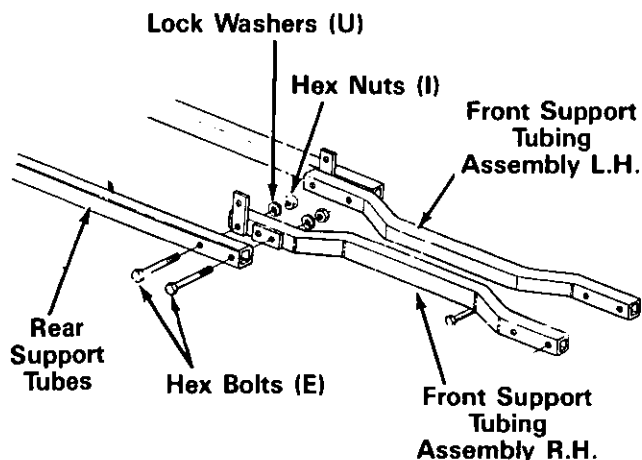

FIGURE 3
- A. Place the front support tubing assembly on work bench or the floor. Place the rear support tubes in position as shown in figure 3.
- B. Place hex bolts (E) through holes in side of rear support tubes and front support tubing assembly. See figure 3.
- C. Secure hex bolts (E) with lock washers (U) and hex nuts (I). Tighten securely. See figure 3.